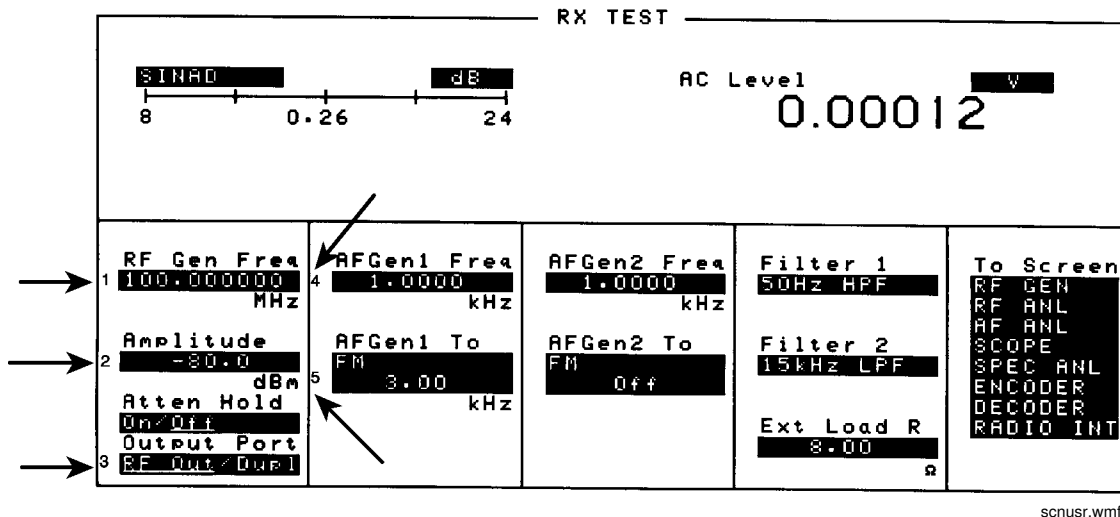

Figure 12 An Example of Pre-Assigned Local User Keys
1. Press and release the SHIFT key, then the k4 key to access the ASSIGN function; then press the ENTER key. The numbers 1 through 5 appear in front of various fields. (See Figure 12.)